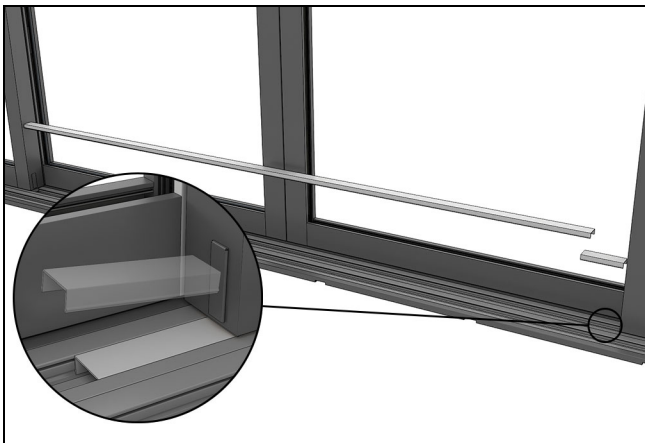

Figure 179 Bi-parting configurations (exterior cover shown)
3. On bi-parting stacked configurations, fit the cover between the two stationary panels. The cover will come in two pieces. Slide the smaller of the two under one panel and pound into place. Fit one end of the longer piece under the other panel, then butt the other end in place and seat the cover with a rubber mallet. See Figure 179.